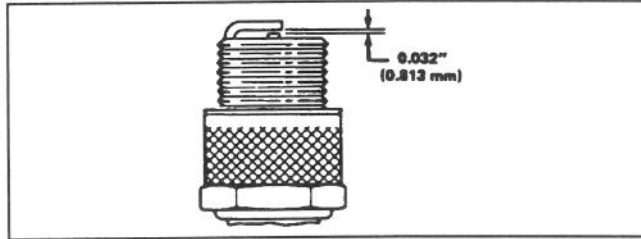

Figure 11
3. Set air gap at 0.032" (0.81 mm) (Fig. 11). Install correctly gapped spark plug and gasket seal. Tighten plug firmly to 10 ft-lb (13.6 N-m).